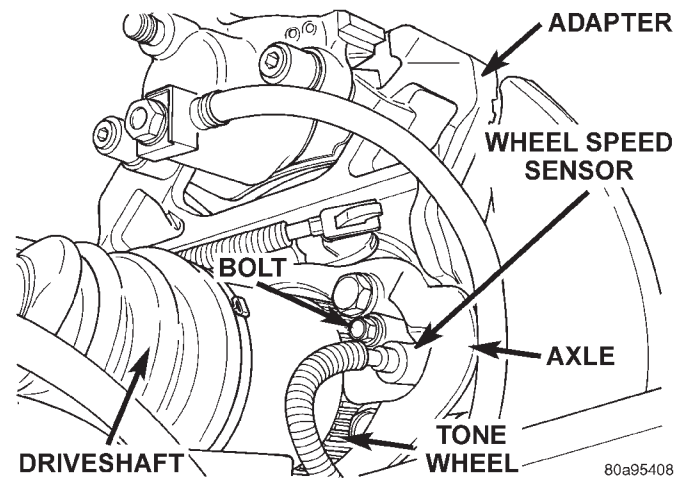

Fig. 46 Speed Sensor Attaching Bolt
(6) Remove the wheel speed sensor attaching bolt (Fig. 46). If sensor head does not come loose, do not use pliers on the sensor head to loosen. Tap sensor head from side to side to loosen.
(7) Remove the wheel speed sensor from the rear bearing assembly.